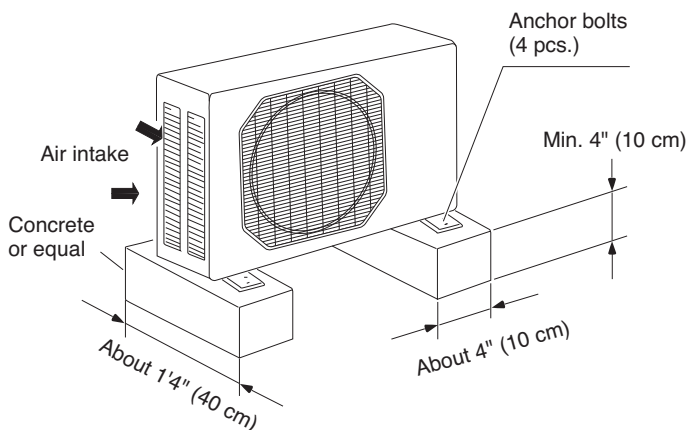

Fig. 5a
- provide a solid base (level concrete pad, concrete block, 4" × 1'4" (10 × 40 cm) beams or equal), a minimum of 4" (10 cm) above ground level to reduce humidity and protect the unit against possible water damage and decreased service life. (Fig. 5a)